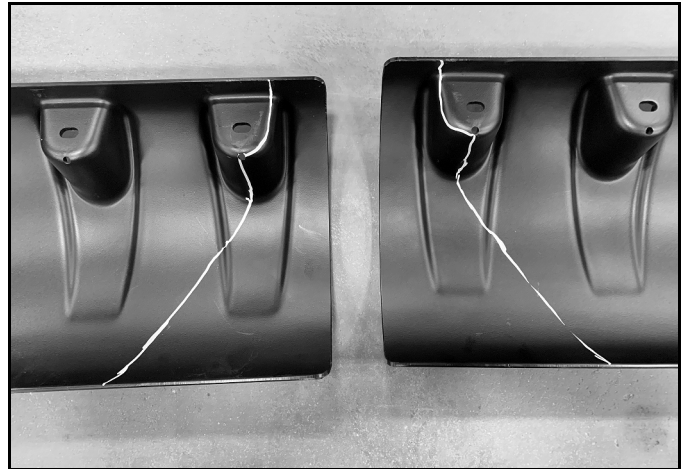

Figure 3
7. Lines should appear as in Figure 3. Cut along lines with a reciprocating saw. File edges smooth.